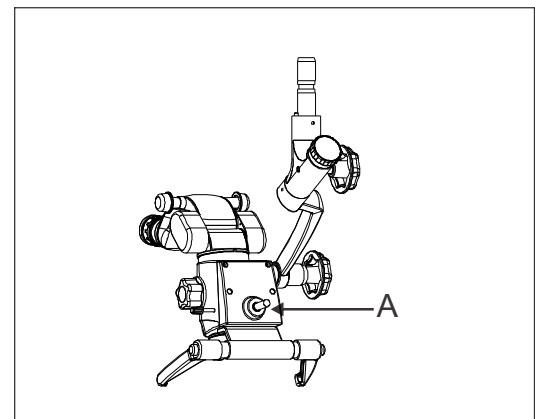

Fig. 5
- Insert the light guide into the receptacle in the microscope till it clicks into position as shown as A in Fig. 5